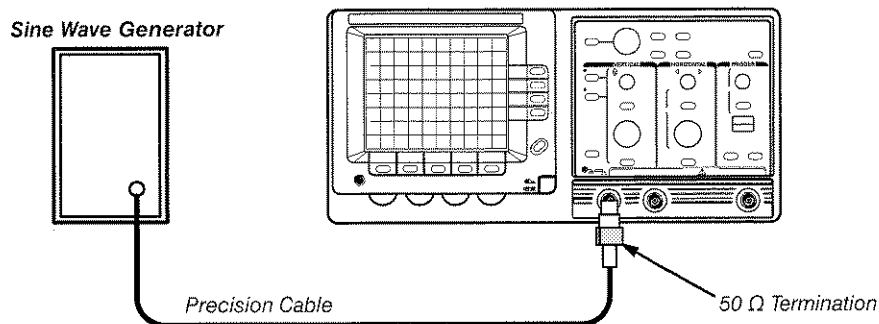

Figure 6-8: Bandwidth Test Setup
**Equipment Required:** One leveled sine wave generator (item 8), one precision coaxial cable (item 5), and one 50  $\Omega$  termination (item 3).
2. Connect the output of the sine wave generator to the channel to be verified as shown in Figure 6-8.